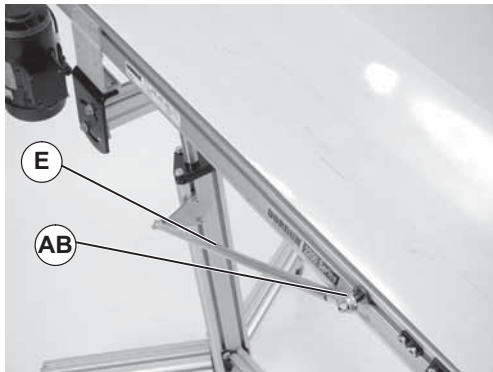

Figure 27
5. If installed, reattach diagonal bracing (Figure 27, item E) and tighten brace fastening hardware (AB) to 100 in-lb (11 N-m).